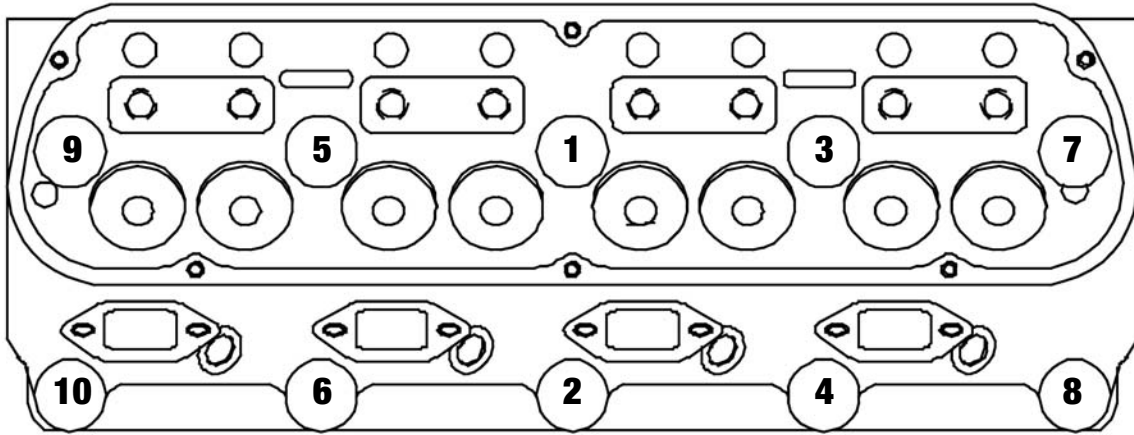

Figure 1 - Head Bolt Tightening Sequence
- Installation is the same as for original equipment cylinder heads. Consult service manual for specific procedures, if necessary. Head gasket recommendations are listed in the head gasket section. Be sure that the surface of the block and the surface of the head are thoroughly cleaned to remove any oily film before installation. Use alcohol or lacquer thinner on a lint-free rag to clean. Apply moly-oil mixture to head bolt threads, washer, and area under head bolt to prevent galling and improper torque readings. Torque to 70 ft./lbs. for 7/16" bolts (289/302) or 100 ft./lbs. for ½" bolts (351-W) in three or four steps following the factory tightening sequence (see Figure 1), then tighten the long (upper) head bolts to 80 ft./lbs. (7/16") or 110 ft./lbs. (1/2"). A re-torque is recommended after initial start-up and cool-down (allow 2-3 hours for adequate cooling).